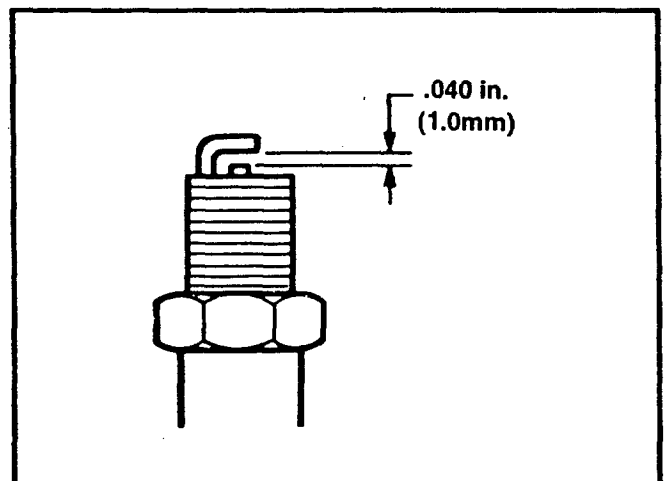

FIGURE 26
- Gap plug to .040 in. (1.0 mm) (Figure 26).